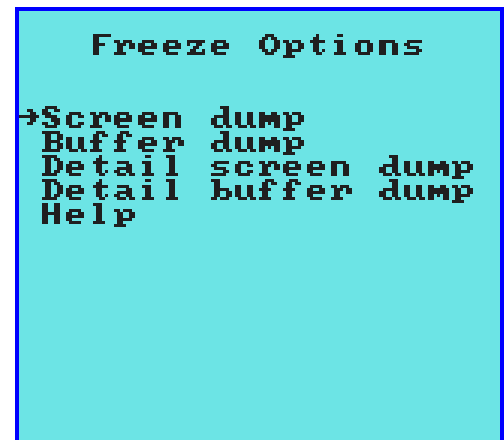

Figure 10. Freeze Options Menu
- On DataBoy, press the SELECT key while in Freeze mode. This brings up the Freeze Options menu, shown in Figure 10.